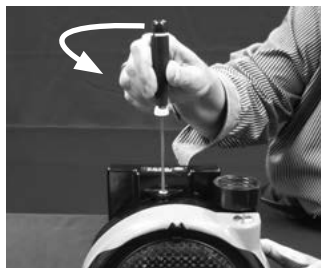

Figure 1
- Use a flat head tool to release the battery from the blower. (See Figure 1.)